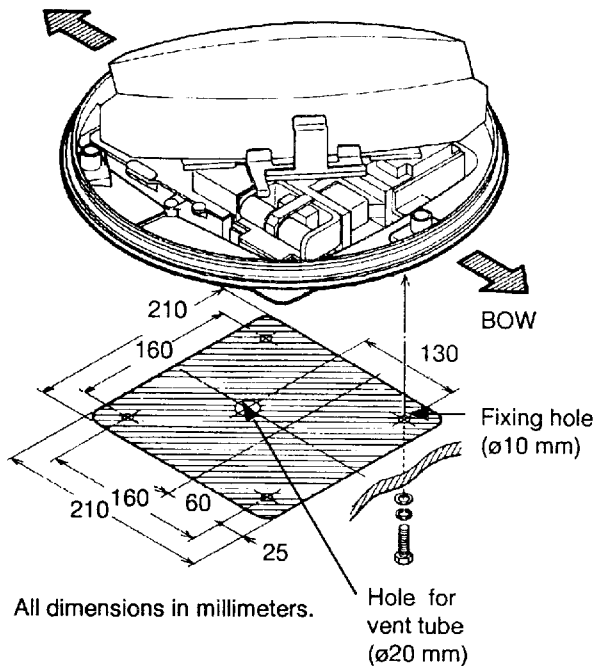

Figure 4-3 Dimensions of antenna platform
3. Construct a platform (wood, steel, or aluminum) of 5–10 mm in thickness whose dimensions are as shown in Figure 4-3. Fasten the platform to the mounting location.